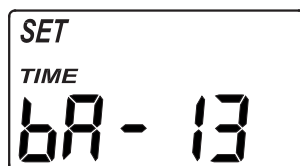

FIG. 31
- Press the SELECT button four times, so that "SET TIME bA" appears in the display (See Figure 31).